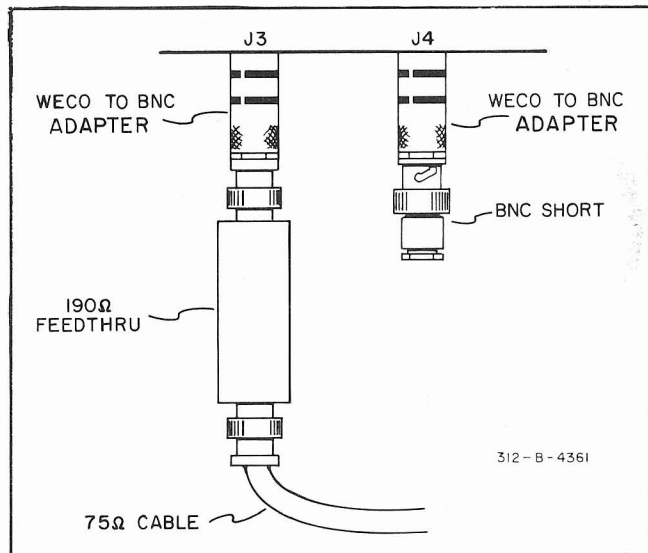
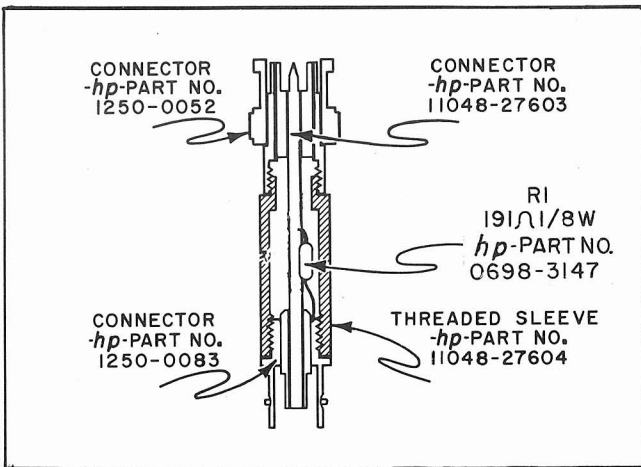

Figure 5-1(b). Use of Adapters – 312D.
Figure 5-2. 190 Ohm Termination.
b. Connect the 313A output to the J3 input of the 312D and a short across J4 as shown in Figure 5-1(b). The construction of the 190 ohm termination is shown in Figure 5-2.